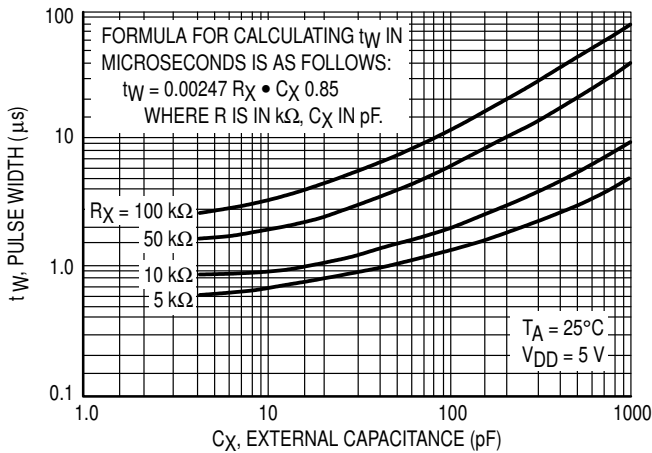

Figure 3. Typical  $C_X$  versus Pulse Width @  $V_{DD} = 5.0 \text{ V}$
**MONO-IN (Pin 15)** — Used as the timing pin for the on-chip monostable multivibrator. If the Mono-In input is connected to VSS, the monostable circuit is disabled, and Decode Out is directly connected to the selected Q output. The monostable circuit is enabled if a resistor is connected between Mono-In and VDD. This resistor and the device's internal capacitance will determine the minimum output pulse widths. With the addition of an external capacitor to VSS, the pulse width range may be extended. For reliable operation the resistor value should be limited to the range of 5 k $\Omega$  to 100 k $\Omega$  and the capacitor value should be limited to a maximum of 1000 pf. (See figures 3, 4, 5, and 10).